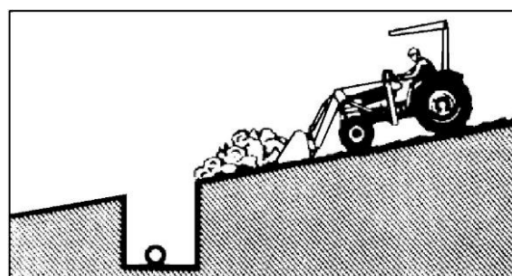

Fig 4.24. Pile dirt on the high side
- Pile dirt on the high side for easier back filling on a slope shown in figure 4.24.